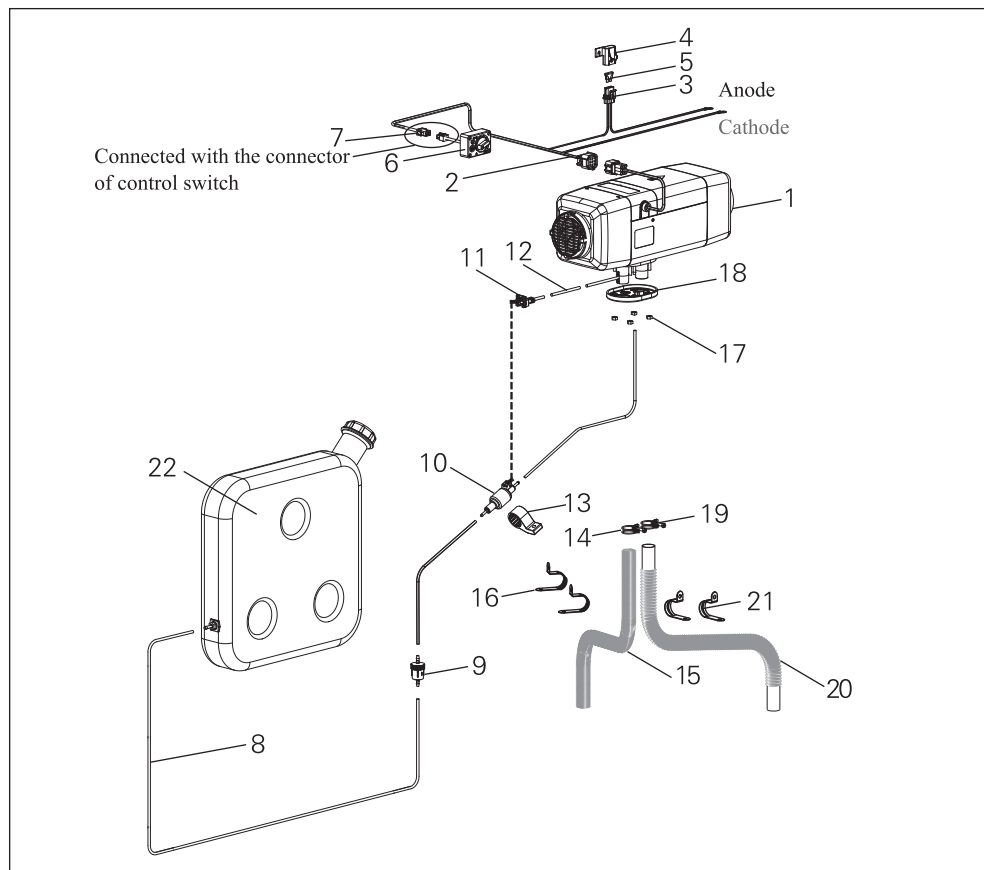
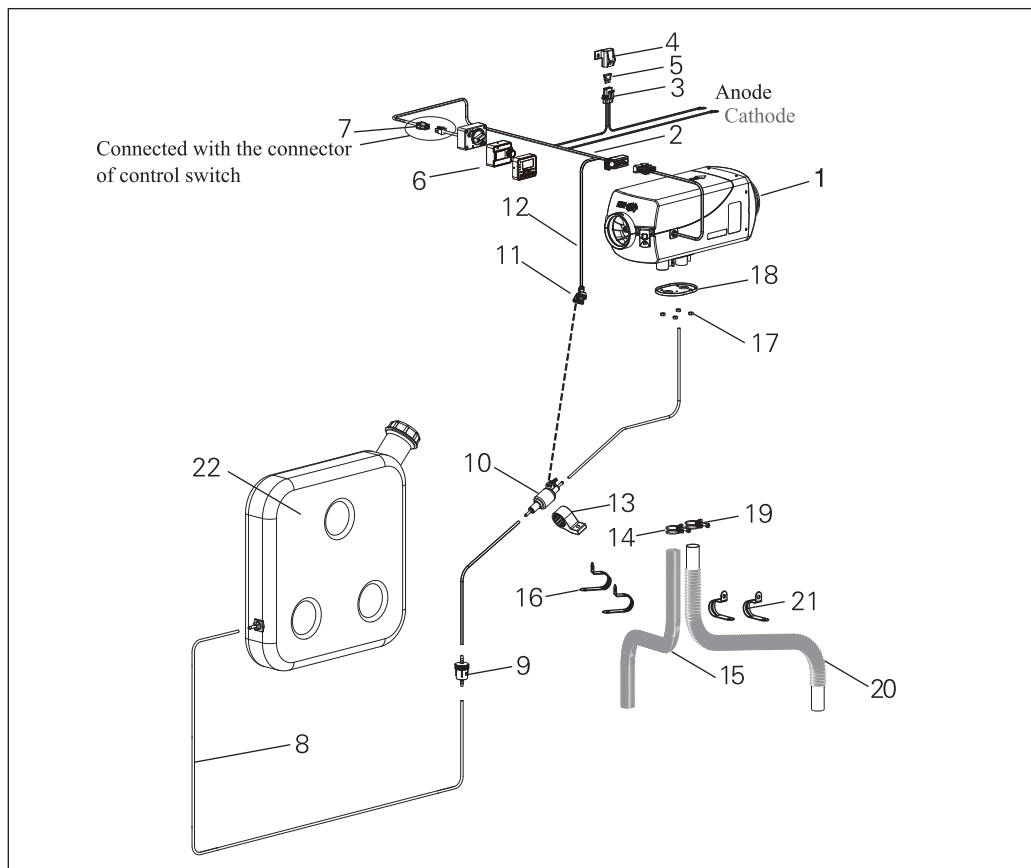

Fig. 9 (W)
Fig. 10 (E)
Only special parts can be used for installation of the heater. Fig. 9 (W) and Fig. 10 (E) is the diagram for installation. The positions and fixing ways of various parts may vary for different types of vehicles, but the general principles must be followed in conformity with the requirements of this chapter. Otherwise, the heater may not work normally, even safety problems may occur.